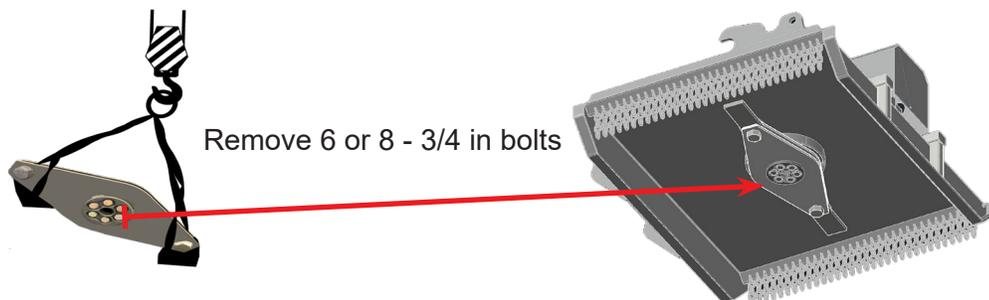

Figure 4.6B BLADE HOLDER AND SLING SYSTEM
6. Rig a pair of choker slings through the blade holder and connect to an overhead hoist. Keep a slight amount of tension on the slings to prevent the blade holder from falling once the bolts are removed. **See Figure 4.6B**